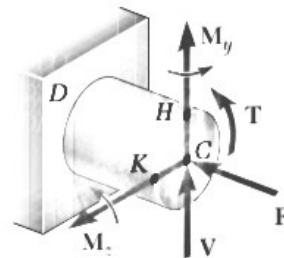

Fig. 8.22
**Internal Forces in Given Section.** We first replace the forces  $\mathbf{P}_1$  and  $\mathbf{P}_2$  by an equivalent system of forces and couples applied at the center C of the section containing point K (Fig. 8.22). This system, which represents the internal forces in the section, consists of the following forces and couples: